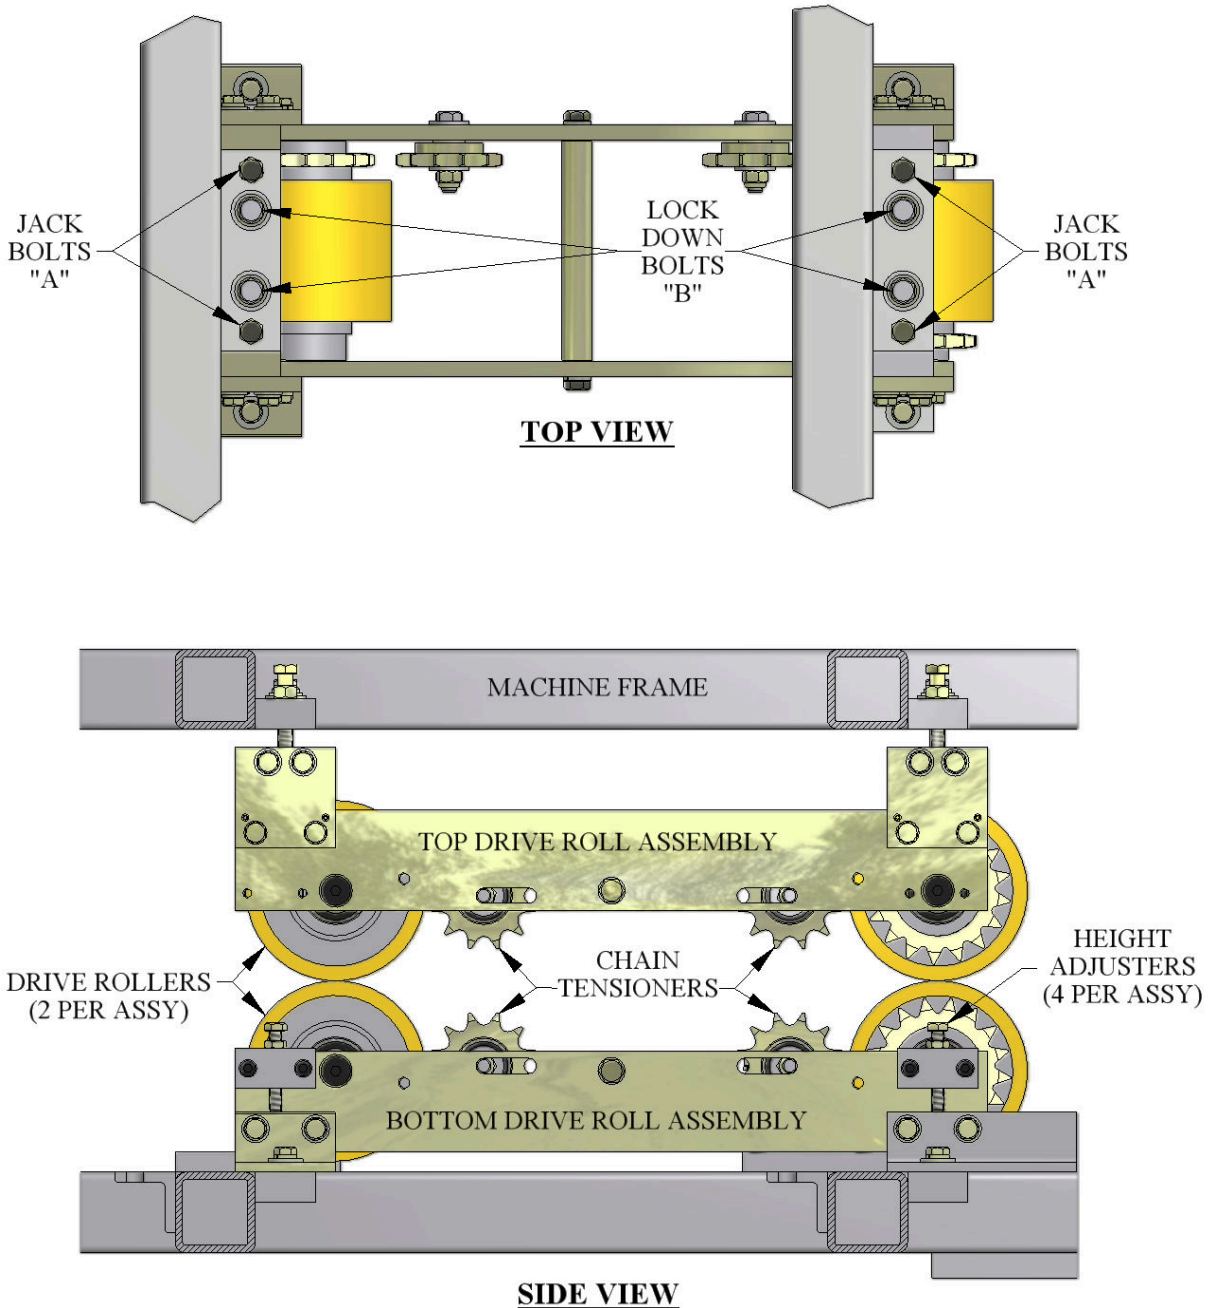
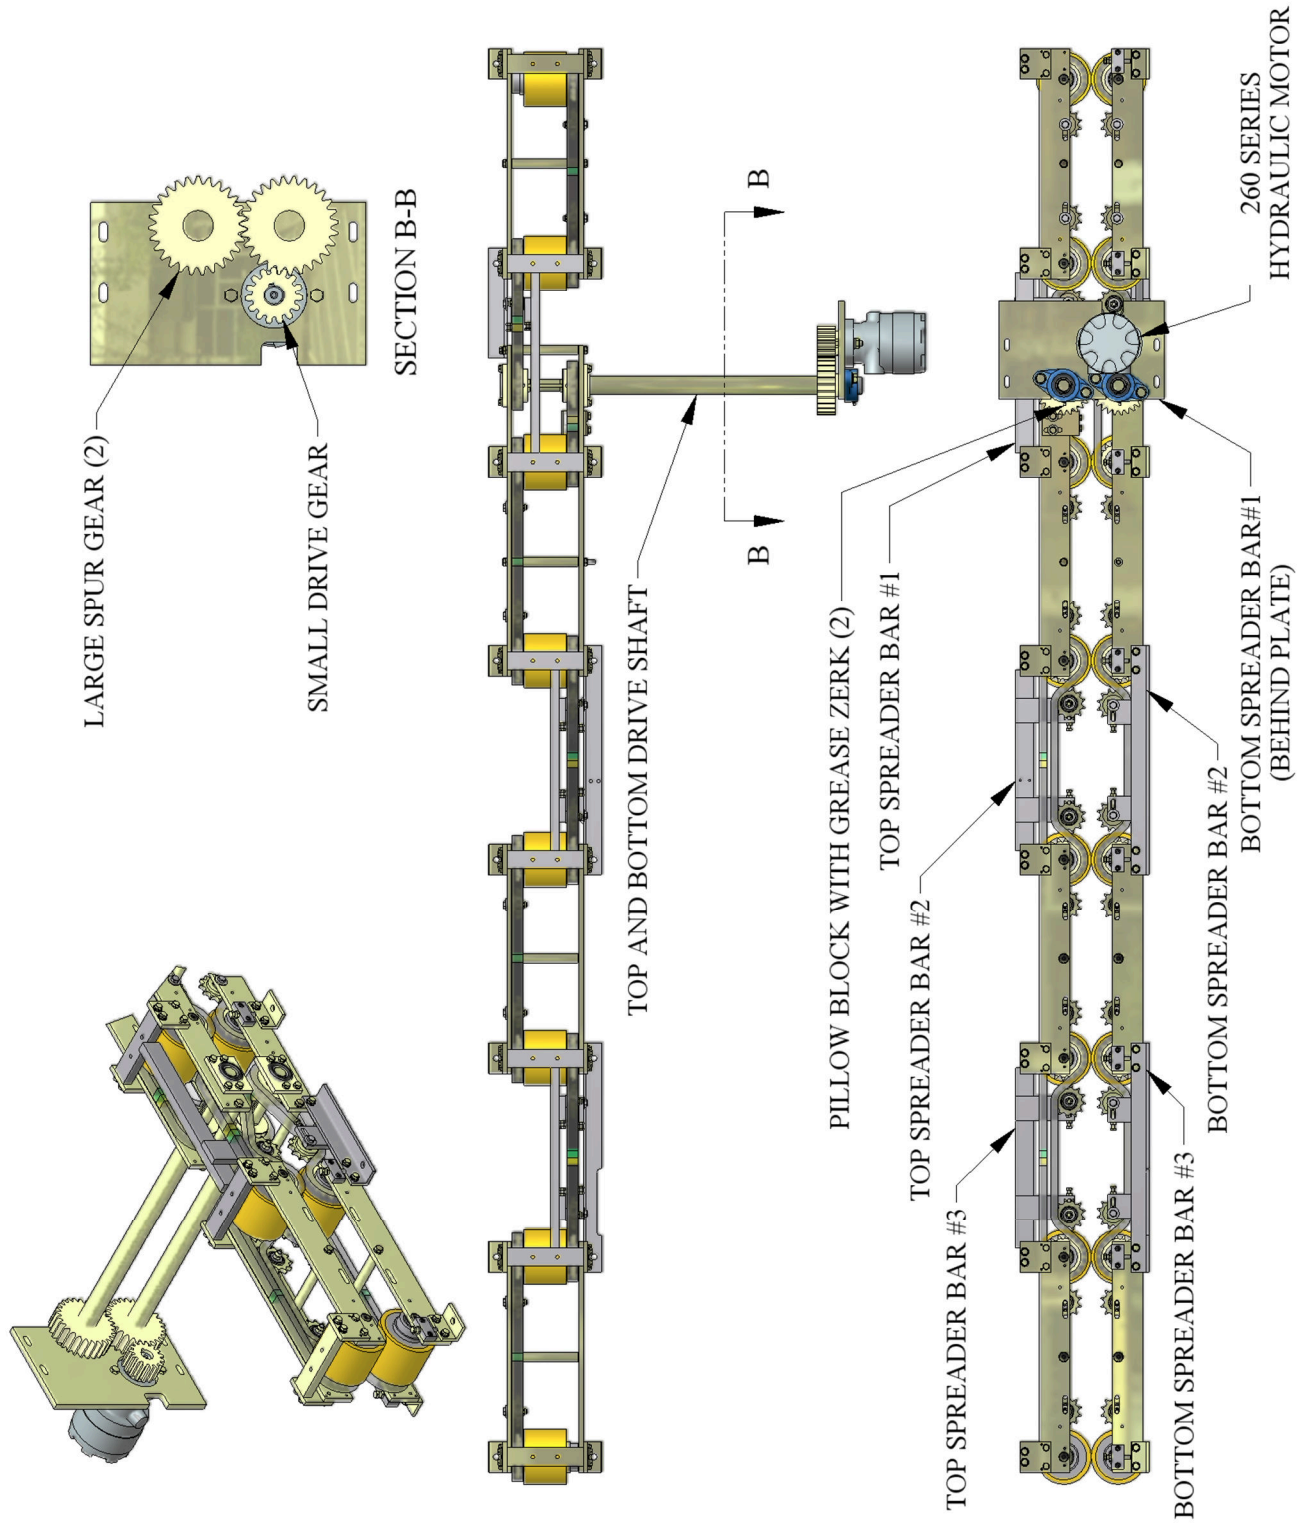
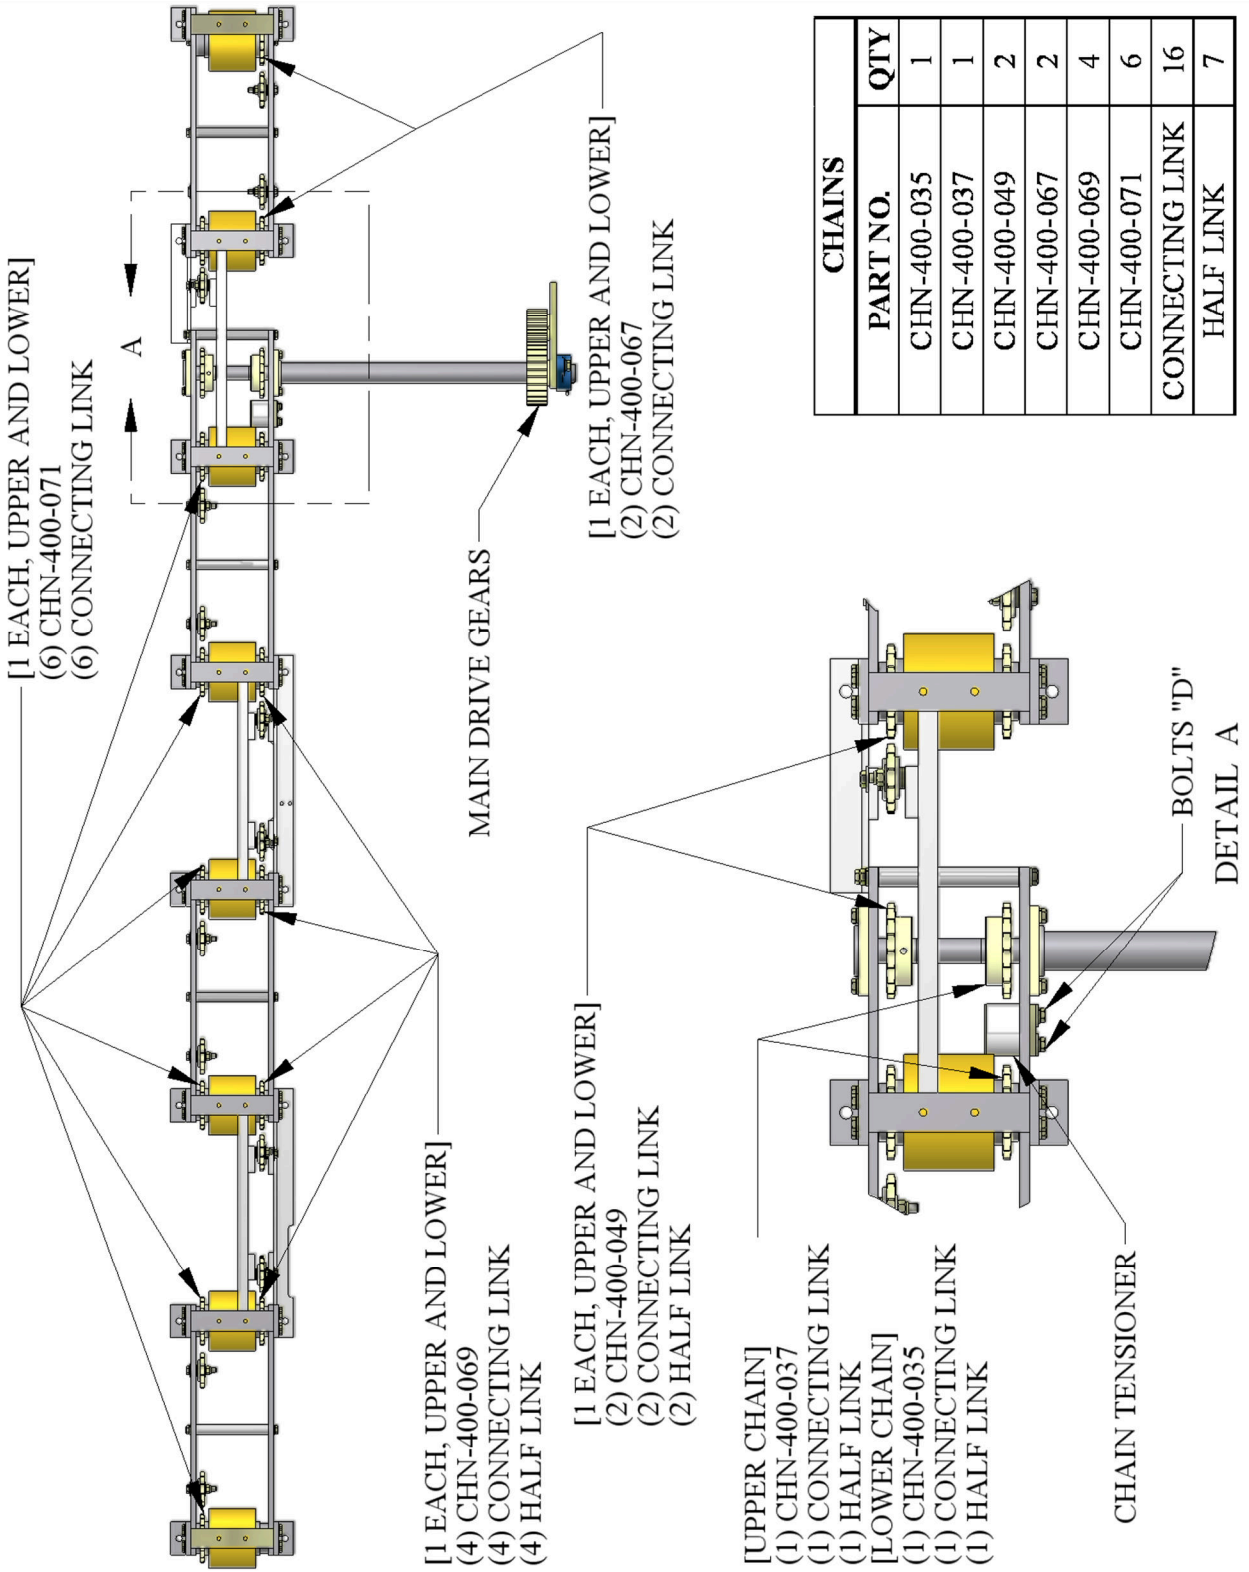

Figure 27: Drive Roll Assembly View
Figure 28: Gears and Shafts
Figure 29: Chains Upper and Lower
(Figure 27, Figure 28 & Figure 29)
- C. The third is located on the Top #1 Spreader Bar between the sprocket and drive roller. (see detail 'A' Figure 29) Loosen two "D" bolts enough to move the tensioner assembly up toward the chain until snug. Re-tighten the two "D" bolts.
3. The chains used in this system are #50 Roller Chain. See Figure 29 for chain locations and lengths if chain replacement is necessary.